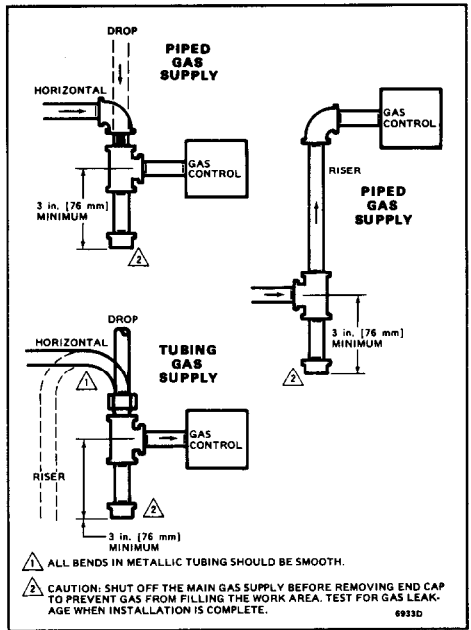

Fig. 2—Sediment trap installation.
3. Install sediment trap in the supply line to the gas control. See Fig. 2.